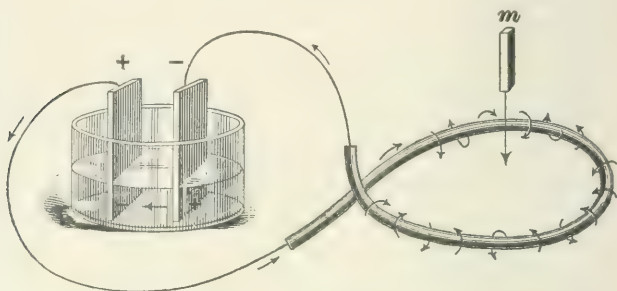

FIG. 25.
28. If the conductor carrying the current is bent into the form of a loop, as in Fig. 25, then all the lines of force